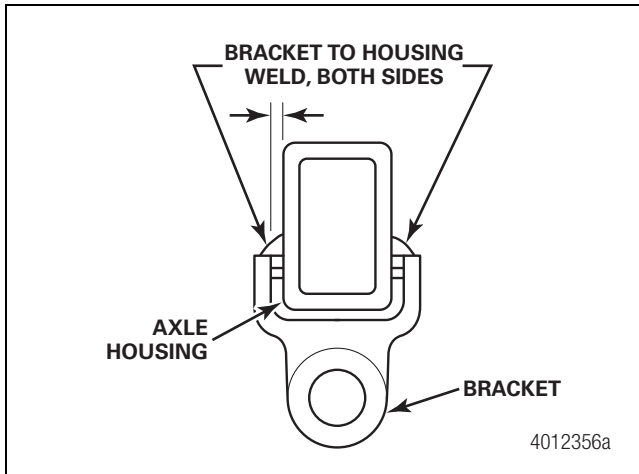

Figure 4
3. Visually inspect the weld to ensure the bracket-to-axle housing is welded on both the front and rear sides of the bracket to the axle housing. Figure 4.